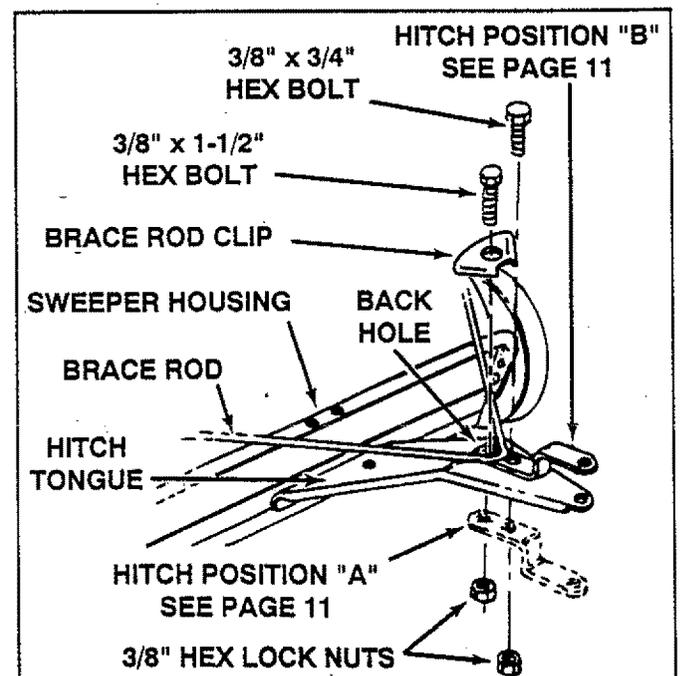

FIGURE 5
Before assembling the hitch bracket to the hitch tongue, refer to figure 5 and page 11 to determine which position is required for your towing vehicle.
3. Assemble the hitch bracket to the hitch tongue using a 3/8" x 3/4" hex bolt (in front hole) and a 3/8" hex lock nut as shown in figure 5. Next, assemble the brace rod over the back hole in the hitch bracket and fasten with the brace rod clip, a 3/8" x 1-1/2" hex bolt and a 3/8" hex lock nut. **Do not tighten at this time.** See figure 5.